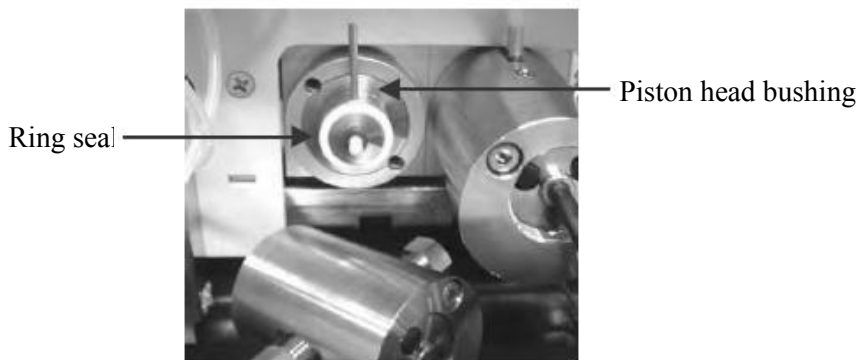

Figure 6. The bushing and the ring seal upon removal of the pump head.
- 8.7.1.5. Carefully remove the bushing of the seal-washing chamber from the piston (including the seal). See Figure 6.
- 8.7.1.6. Remove the bushing with draining device from the piston unit, using the extractor from the pump's accessories kit. See Figure 6.